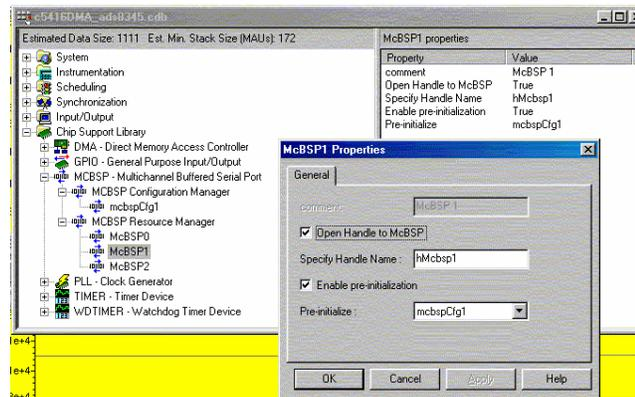

Figure 14. McBSP Configuration Object Resource Link
8. Now that the McBSP configuration object is properly set, it is time to link the object with the McBSP1 resource. Expand McBSP resource manager. Right click on MCBSP1 and select properties. Set options as shown in Figure 14. Check *open handle* and *pre-initialize* to mcbbspCfg1. The pre-initialize ensures that the McBSP registers are set before arriving in the main function.